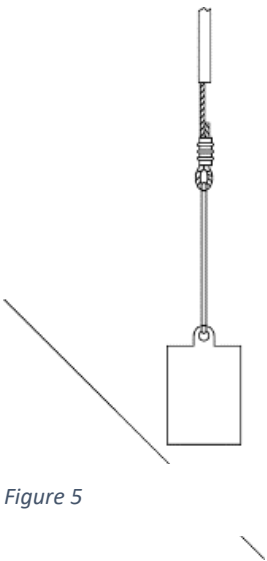

Figure 5
- Hopper bottom silos. See Figure 5 (steel and concrete).